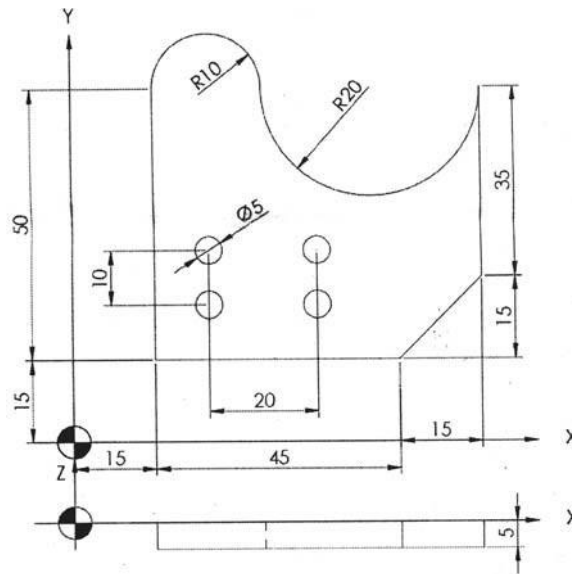

Fig. 3
10. Write CNC program using G and M codes to contour, face and drill the component shown in fig. 3. Use canned cycles wherever applicable. Thickness of blank is 7 mm. Assume suitable data for speed and feed.